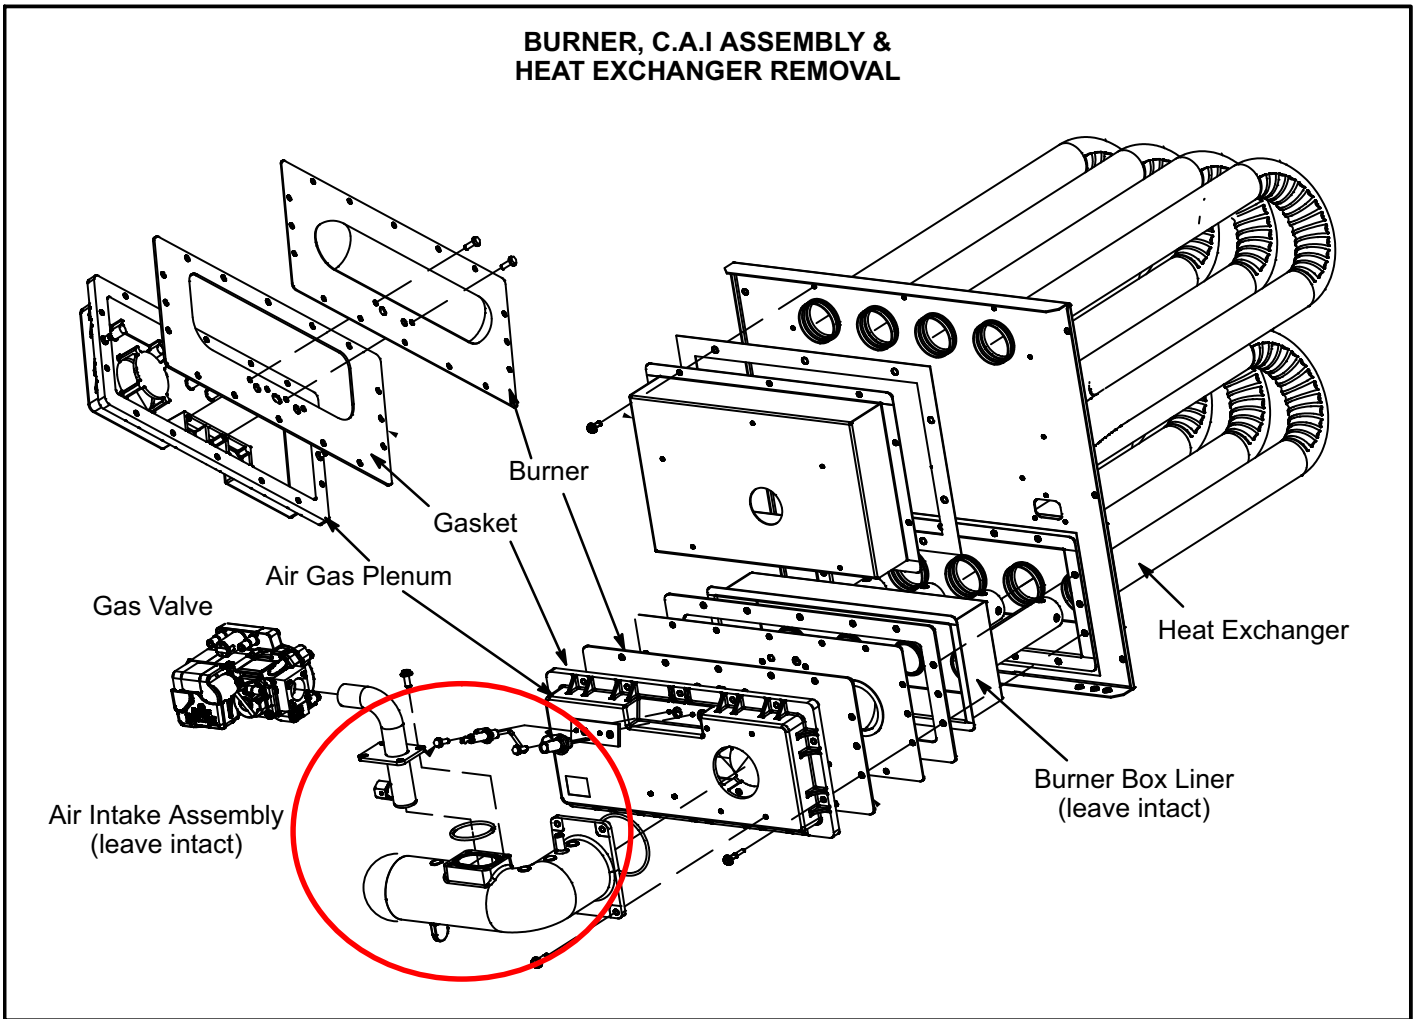

FIGURE 27
- 9- To clean burner, remove from the air gas plenum and run a vacuum cleaner over the face of burner. Visually inspect inside the burner for any blockage caused by foreign matter. Remove any blockage. Figure 27 shows burner detail. Replace gasket between burner plate and air fuel plenum then re-install burner plate.